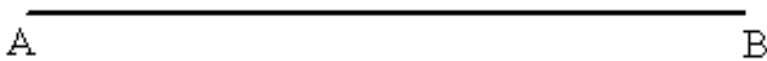

Fig. 3
15. Set out geometrically on the line A - B in figure 3 below, a segmental curve having a rise of 20 millimetres.